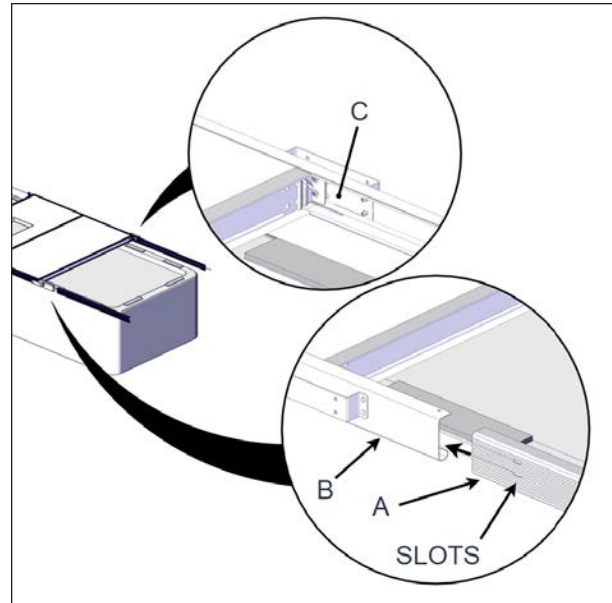

FIGURE 49: SIDE EXTENSION C-CHANNEL INSTALLATION
11. Insert the side extension C-channel inside the support bracket, see Figure 49.
There are two slots at one end of the C-channels. The slots must go toward the cover see Figure 49.